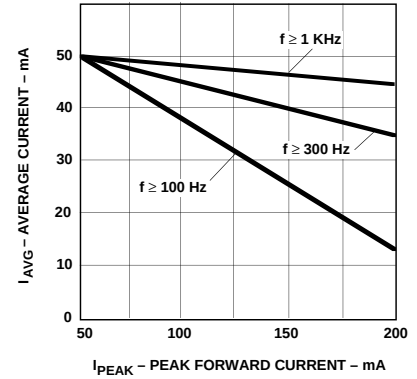

Figure 5. Maximum Average Current vs. Peak Forward Current.
2. Any pulsed operation cannot exceed the Absolute Max Peak Forward current as specified in Figure 5.